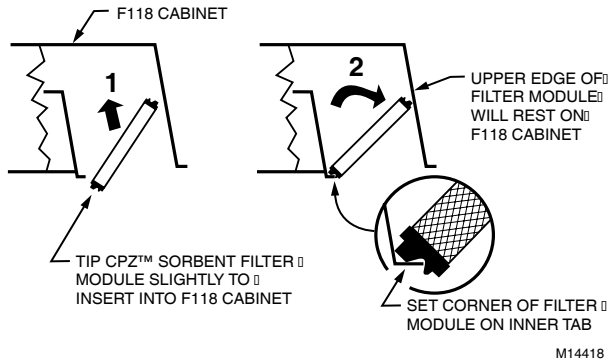

Fig. 7. Installing CPZ Modules.
- b. See Fig. 7 to install CPZ module at each end of the cabinet. Tilt and then push the module up about ten inches into the opening. Then allow it to rotate down so the bottom rests on the inside cabinet ledge.